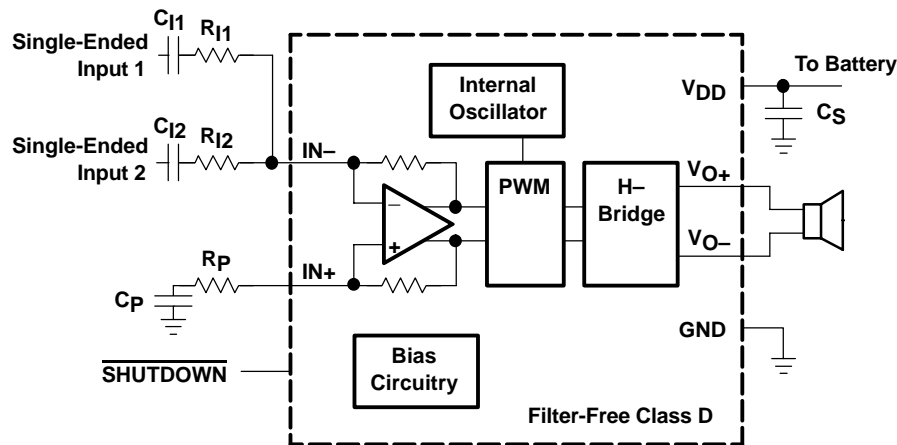

Figure 31. Application Schematic With TPA2005D1 Summing Two Single-Ended Inputs
Four resistors and three capacitors are needed for summing single-ended input signals. The gain and corner frequencies (f_{c1} and f_{c2}) for each input source can be set independently (see equations (9) through (12), and Figure 31). Resistor, R_P , and capacitor, C_P , are needed on the $IN+$ terminal to match the impedance on the $IN-$ terminal. The single-ended inputs must be driven by low impedance sources even if one of the inputs is not outputting an ac signal.